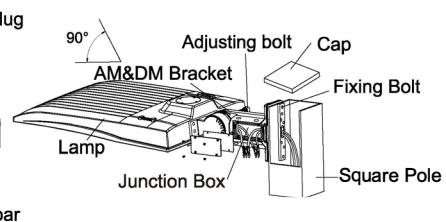

Figure 22
Step 2. Fix the MM bracket to square pole with bolt, open the cover of MM bracket junction box, pull the wires into the bracket junction box, connect the wires and cover the junction box (Figure 22)
Notice: Adjustable angle is 0-90° (Figure 22)